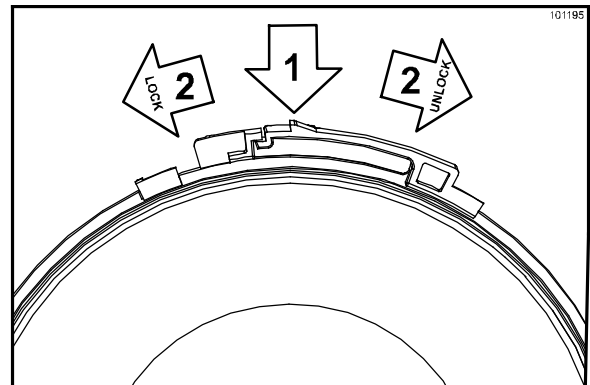

Figure 185
9. Remove the plastic ice shaver assembly cover by pressing the center tab and turning the cover clockwise. This unlocks the ice shaver blade. (See Figure 185.)